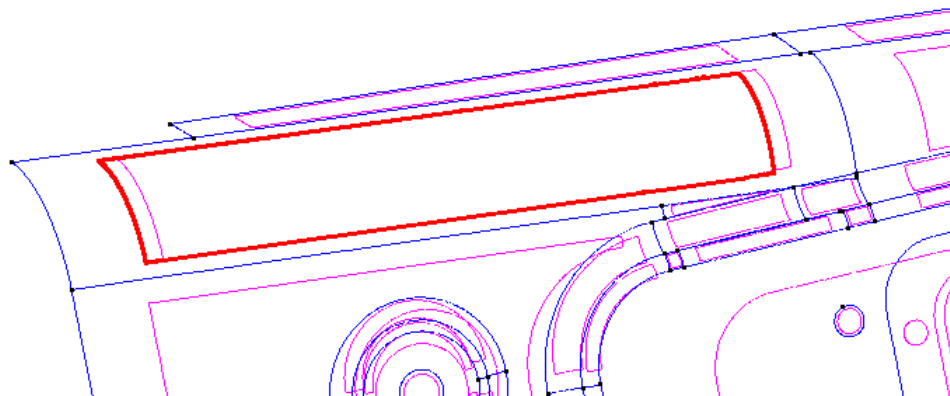

Figure 26. The original surface to be deleted.
- 13 . Select **Geometry->Delete->Surfaces**. Select the original surface (Figure 26). Press **ESC** twice.